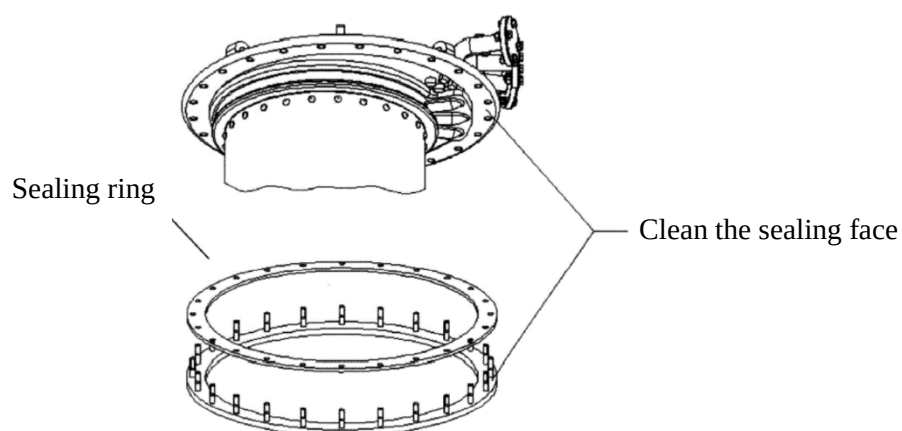

Figure 8 Sealing face
- 1) Clean the bottom sealing face of the tap-changer head flange as well as the surface of transformer mounting flange, and place a sealing gasket on it (Figure 8).